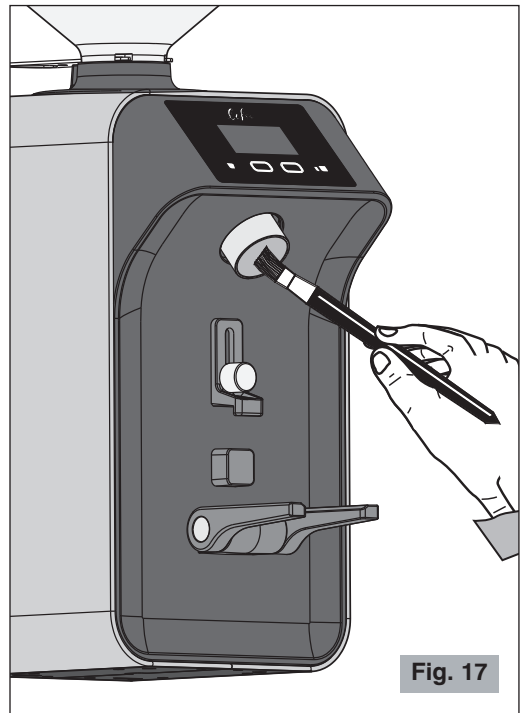

Fig. 17
- Use a brush or a paintbrush (Fig. 17) to clean the most hidden areas inside the unit and a dry cloth for the other surfaces.